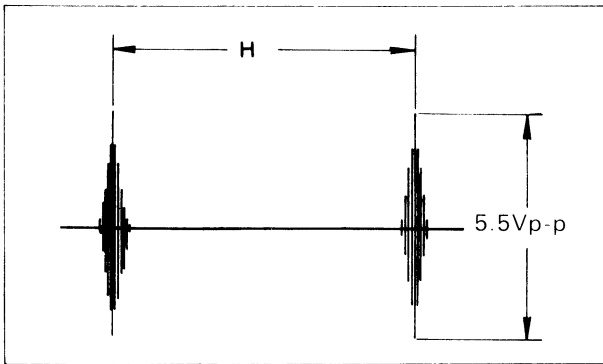

Fig. 5-66. Sampling burst waveform
- Set the VTR at the recording mode and verify that the waveform is as shown in Fig. 5-66.